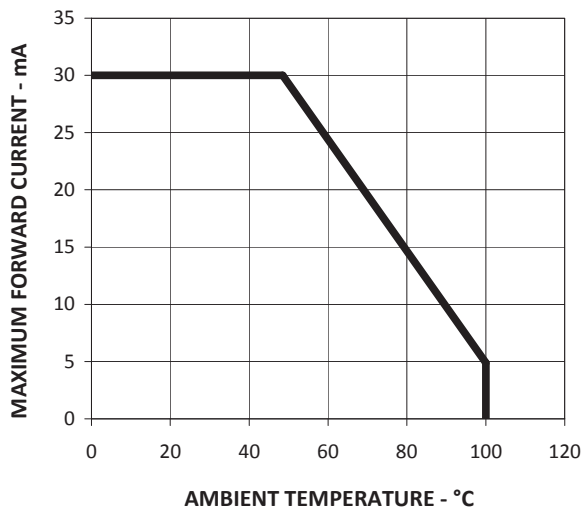

Figure 4. Maximum Forward Current Vs. Ambient Temperature. Derated Based on $T_{JMAX} = 110^{\circ}\text{C}$, $R\theta_{JA} = 500^{\circ}\text{C/W}$
1. Derate linearly as shown in Figure 4.